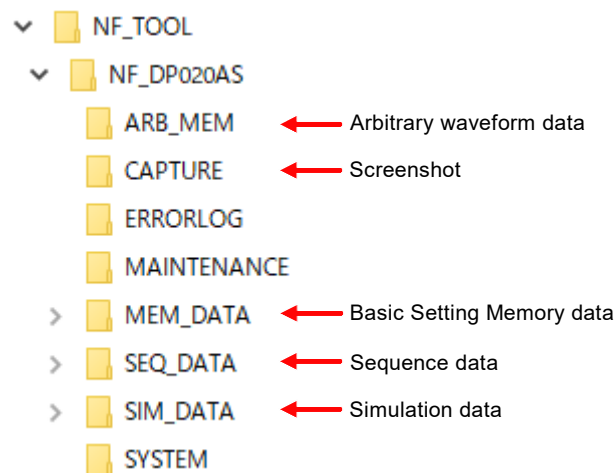

Figure 4-23 USB Memory Folder Structure
The root folder of the USB memory should have folders as shown in *Figure 4-23*. Otherwise, these folders are created automatically when the USB memory is connected to this product.
- The ERRORLOG, MAINTENANCE, and SYSTEM folders in *Figure 4-23* are not used by the users. Do not delete these folders and files in them, as they are used for firmware updating of this product and other purposes.